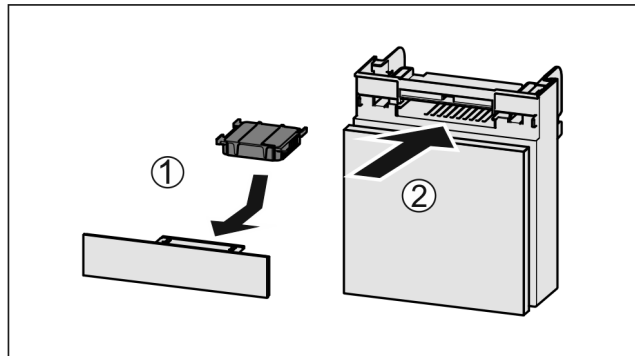

Fig. 255
- Insert the carbon filter as shown in the diagram Fig. 255 (1).
- Push the compartment in Fig. 255 (2).